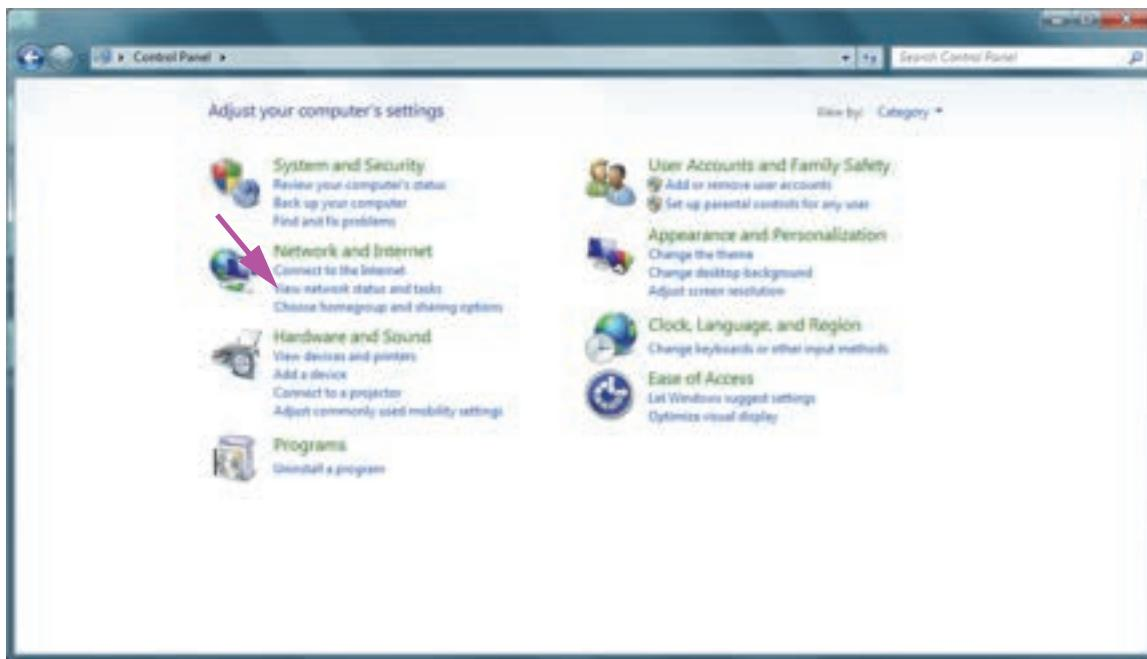

Figure 2-37. All Control Panel Items Window—Category View
3. Select **Control Panel**. If the view is set for **Category**, the screen appears as shown in Figure 2-37.